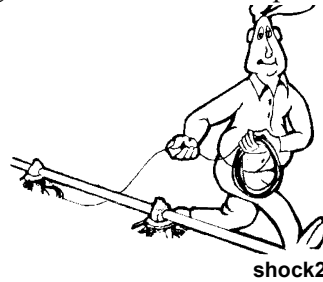

Figure 55.Unrolling the Cable
1. Unroll the bulk anti-roost cable. Note: If the cable is unrolled as shown in **Figure 55**, taking 5 loops of the coil with one hand, then changing hands to remove 5 loops as it is unrolled, it will lie flat during installation.